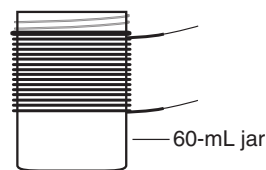

Figure 4.
3. Leaving about 3 cm of magnet wire free to be connected with the alligator clips later, use a small amount of transparent tape to secure one end of one of the 4-m magnet wire piece to the outside of the 60-mL plastic jar. See Figure 4.
4. Remove the lid from the jar and begin wrapping the wire just below the lip of the jar so the wire stays in place. Tightly and neatly wrap the wire around the jar as shown in Figure 4.